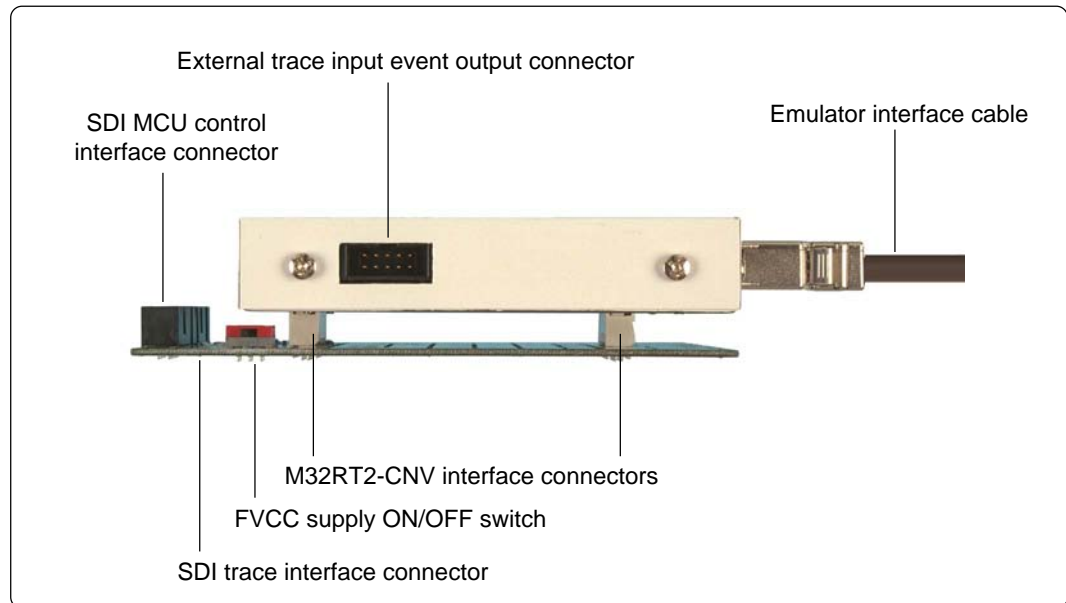

Figure 2.6 Name of each part on front panel of probe
Connects the M32100T-PRB-E and the M32RT2-CNV. Connect the M32100T-PRB-E and the M32RT2-CNV referencing Figure 2.6.
* For other parts shown in Figure 2.6, refer to Figure 2.3.